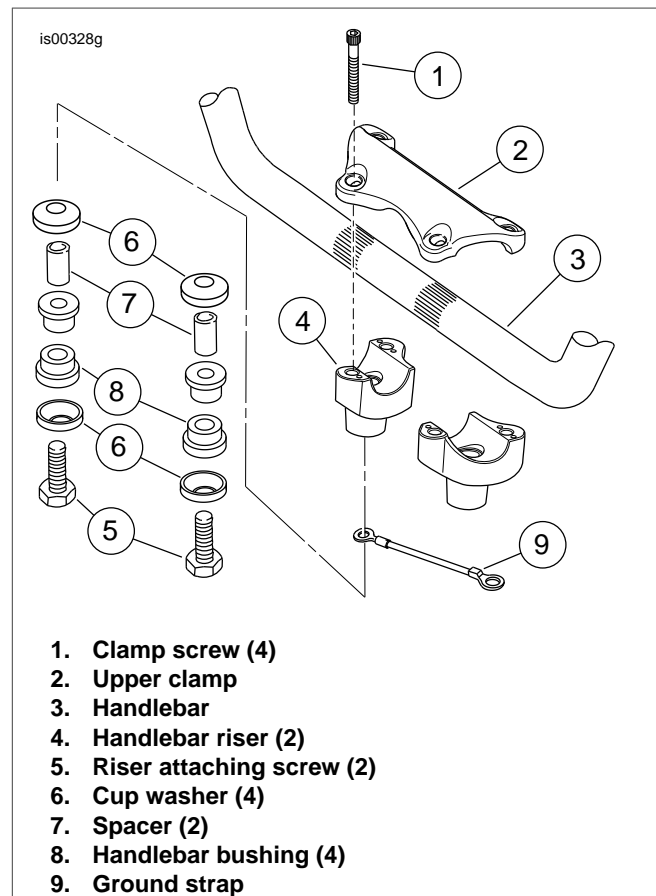

Figure 1. Handle Clamp and Risers
13. See Figure 1. Remove and discard the screws (1) that fasten the handlebar upper clamp (2) to the risers (4). Remove and discard the clamp. Remove the handlebar (3) from the motorcycle.
14. Remove risers (4), riser bolts (5), cup washers (6), spacer sleeves (7), rubber bushings (8) and ground strap (9). Retain riser bolts and cup washers for later installation.